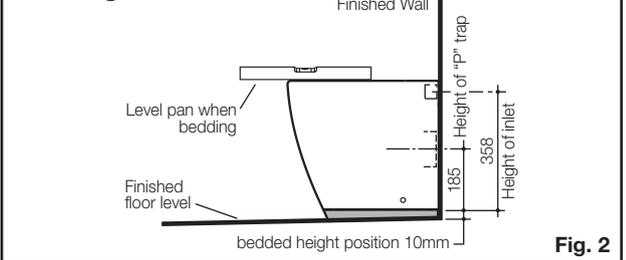

Fig. 2
- 7- Position and push pan into connector ensuring that the flush pipe and keeseal engage into the pan inlet. Level pan into bedding mixture, so that the back of the foot of the pan is approximately 10mm above the finished floor as detailed in **Fig.2**. It is recommended that wedges are used to support the foot of the pan during the positioning.